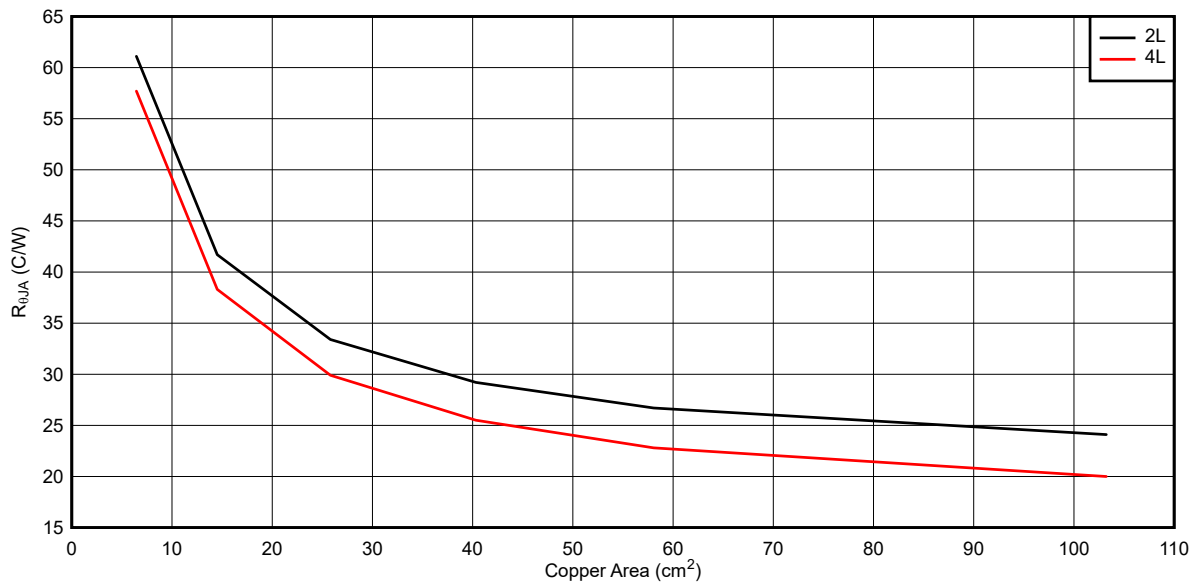
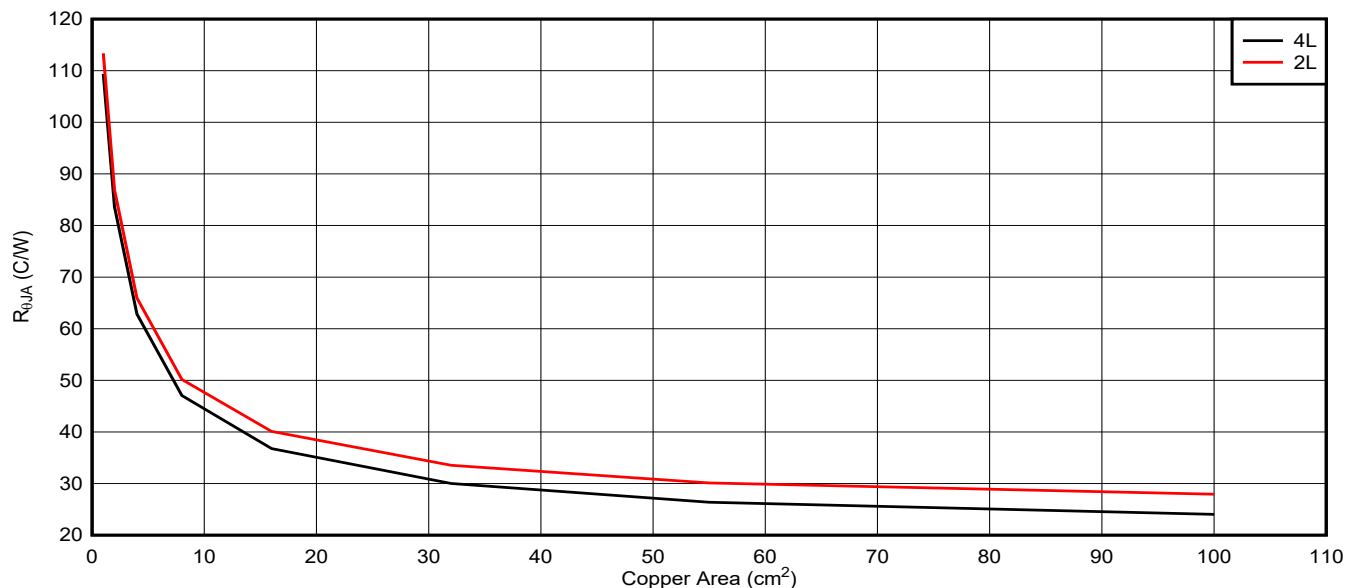
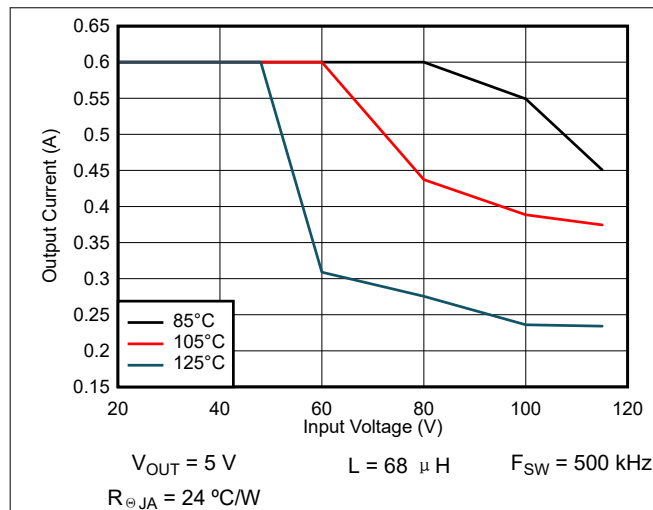
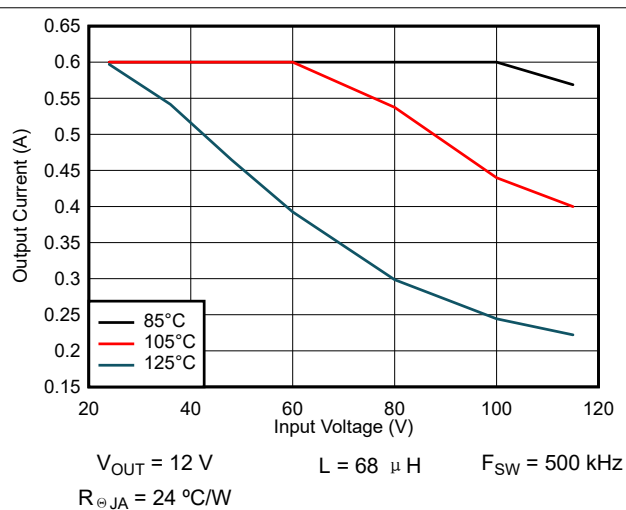

图 8-33. Typical $R_{\theta JA}$ Versus Copper Area for DDA package
图 8-34. Typical $R_{\theta JA}$ Versus Copper Area for NGU package
图 8-35. Maximum Output Current: $V_{OUT} = 5\text{ V}$
图 8-36. Maximum Output Current: $V_{OUT} = 12\text{ V}$
The LM516x features a die attach paddle, or "thermal pad" (EP), to provide a place to solder down to the PCB heat-sinking copper. This provides a good heat conduction path from the regulator junction to the heat sink and must be properly soldered to the PCB heat sink copper. Typical examples of $R_{\theta JA}$ can be found in 图 8-33 and 图 8-34. The copper area given in the graph is for each layer. The top and bottom layers are 2-oz copper each, while the inner layers are 1 oz.
The data in 图 8-35 and 图 8-36 can be used as a guide to determine the maximum output current for a given set of conditions. The particular conditions under which these graphs were taken are indicated in the notes below each graph.
Remember that the data given in 图 8-33 through 图 8-36 is for illustration purposes only, and the actual performance in any given application depends on all of the previously mentioned factors.